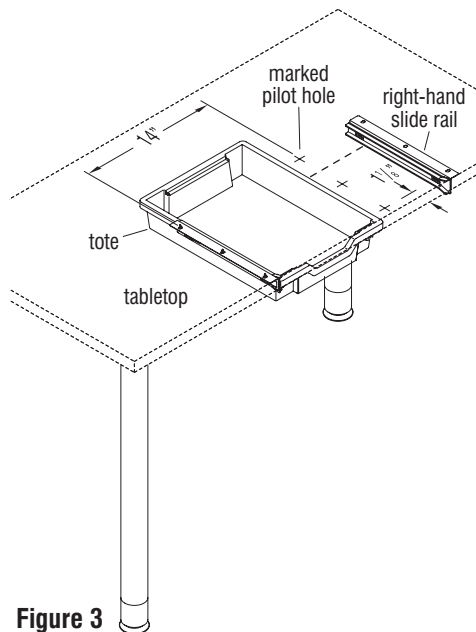

Figure 3
10. Orient the tote as illustrated and insert the top, side rim of the tote into the installed slide rail as illustrated. While supporting the tote up under the tabletop, slide the second slide rail onto the opposite side of the tote. Position the slide rail tight to the side of the tote, then mark the three mounting slots to the bottom of the table for the second, right-hand slide rail to be installed. Make sure the front, "user side" marked location is $1\frac{1}{8}$ " back from the front, "user side" of the tabletop. Move the bracket away and set aside (Figure 3).
11. Check that the first set and second set of three marked mounting slots are parallel to the first and are 14" apart. Using a power drill, carefully drill a $\frac{1}{8}$ " pilot hole under the tabletop at the outside of each slot. Take care to not drill too deep, piercing through the tabletop (Figure 3).